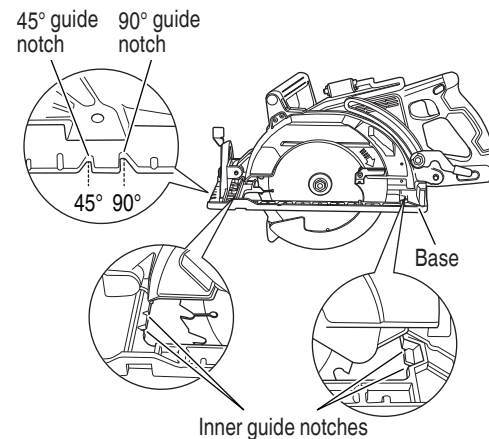

Fig. 27
Also, the saw has the inner guide notches located on the insides of the base as shown in Fig. 27 to keep the straight cutting.
If the base is inclined (45 degrees), use the left side of the notch (Fig. 27).
(4) Tilt the saw forward and align the notch (Fig. 27) with the pre-marked guide line.
(5) Release the lower guard lever. When the lower guard contacts the work piece surface, it will be in the proper position to open freely when cutting is commenced.
- (6) Holding the saw in position, with the blade not contacting the work piece surface, pull the trigger switch.
- (7) After the saw has reached full speed, gradually lower rear end of the saw until its base rests on the work surface.
- (8) Advance saw along the cutting line up to the corner.
- (9) Release the trigger switch and allow the blade to stop completely before withdrawing the blade from the work piece.
- (10) Use a jig saw or hand saw to cut the corners out clean.
- (11) When starting each new cut, repeat as above.